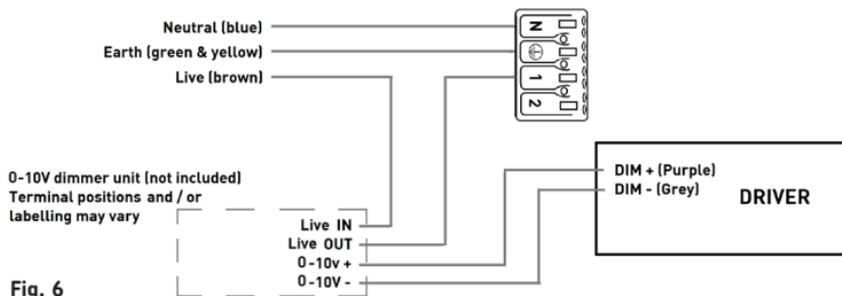

Fig. 6
- If the fitting is to be operated by an external 0-10V dimmer (not included), wire as shown in Fig. 6